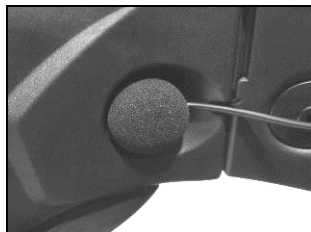

Fig. 13
- Hook up the specific microphone for full-face helmets in its seat in the chin guard (Fig. 13).